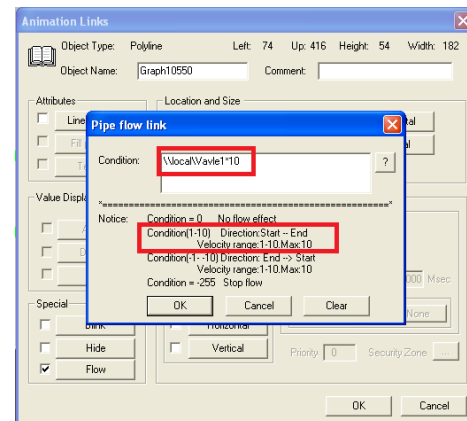

Fig. 34 Animation Configuration for the pipe
3. Double click the valve named "Valve1". Configure the animation using tag "Valve1" as Fig. 34;